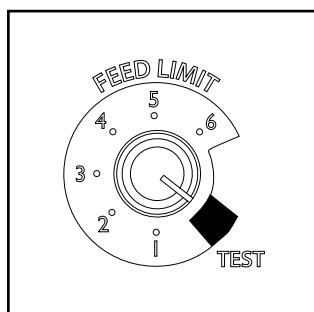

Figure 4.3
3. For your first fire it may be necessary to purge the auger system by putting the Feed Limit knob to “Test” prior to starting the unit. Figure 4.3. This insures that plenty of fuel enters the burn pot for proper ignition.